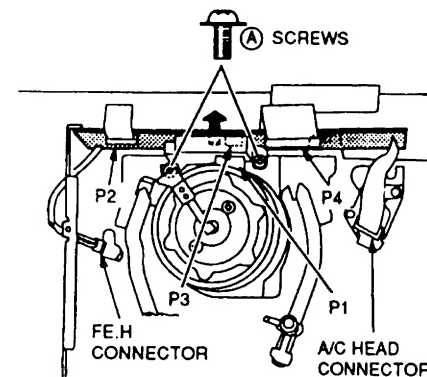

Fig 1.
- 3: Remove one of the (A) screws and remove the EARTH BRUSH.
- 4: Remove the other (A) screw, then press the lower side of the shield case in the direction of the arrow as shown in Fig 1